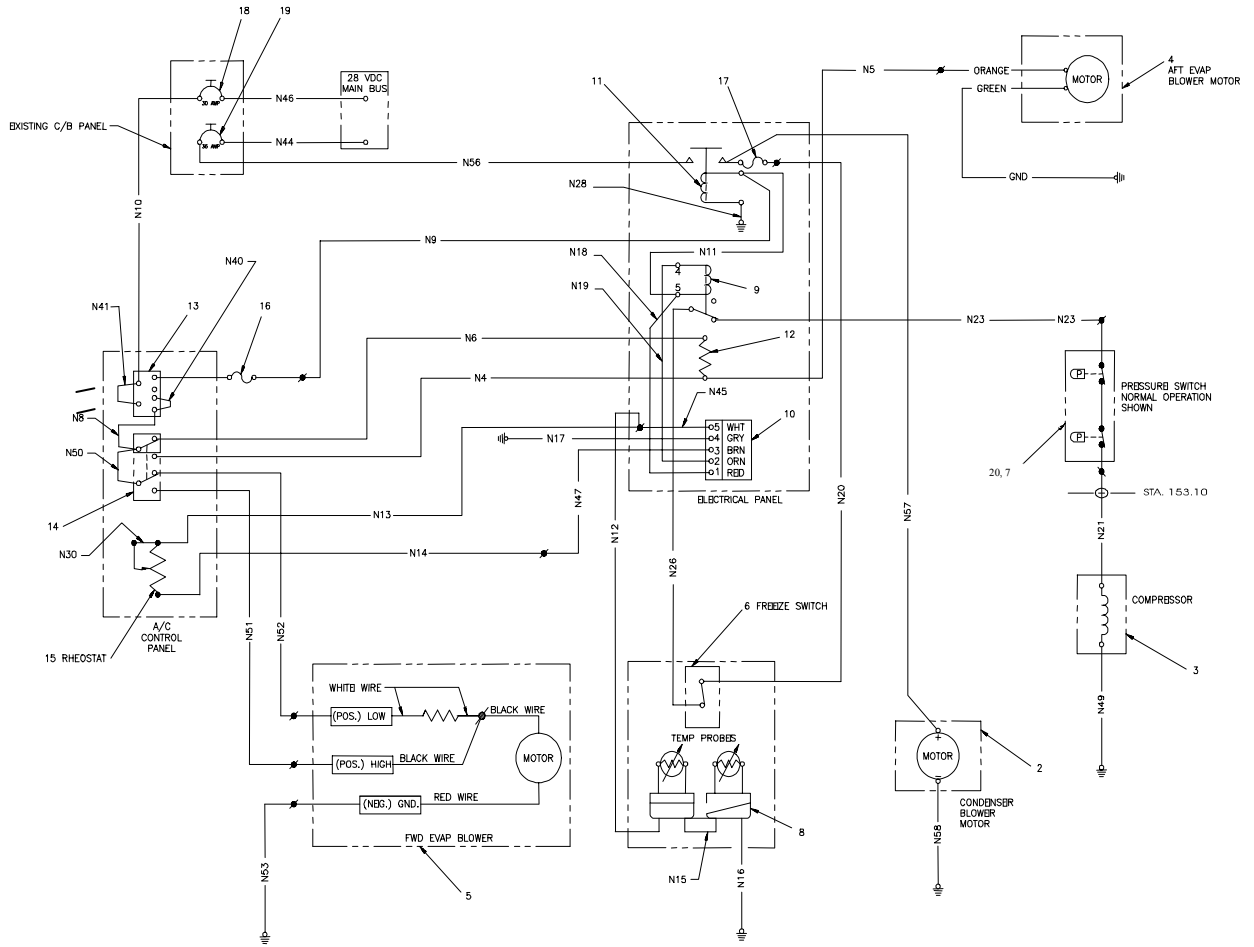

Figure 1
3. Check if power is present at wire 206-1709-N57 (at electrical panel). If power is present, the fan motor (Ref. 21-50-04 IPL Fig. 1, item 4) has failed.
IPL Figure 1